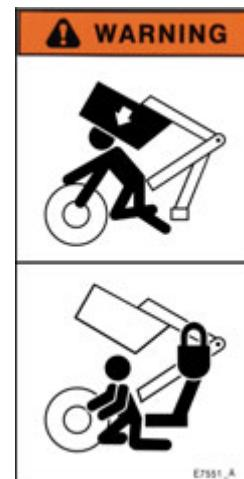

Figure 4.23: Remove the bucket lift locks
8. Remove the bucket lift locks (1) and lower the bucket; see Figure 4.23.
- b. Remove the locking pins and bucket lift locks (1).